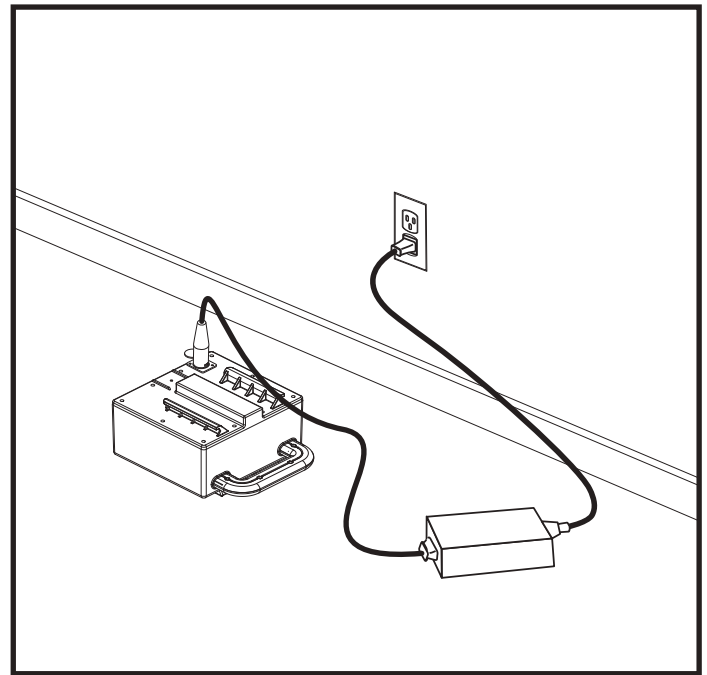

Figure 14. Battery Charging with the Battery Box
3. Plug the off-board charger into the battery box charger port. **See figure 14.**